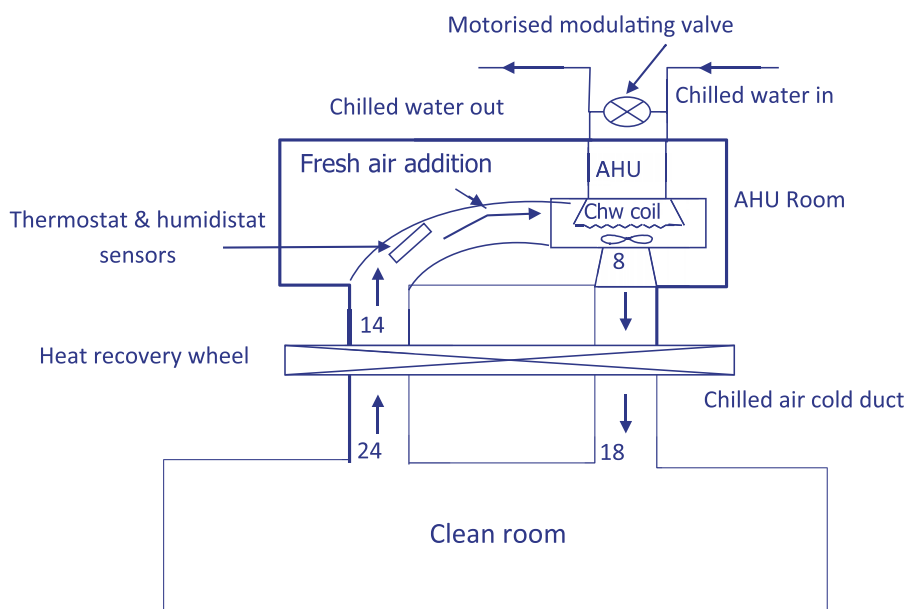

Figure 2: Schematic of typical heat recovery based RH control system
- The return air from clean room is hot and supply air is cold. Instead of using electrical heaters for RH control of chilled supply air, heat in return air can be transferred to supply air through a heat recovery wheel as shown in figure 2 and that much load on chilled water will also get reduced. The saving in energy will be enormous.